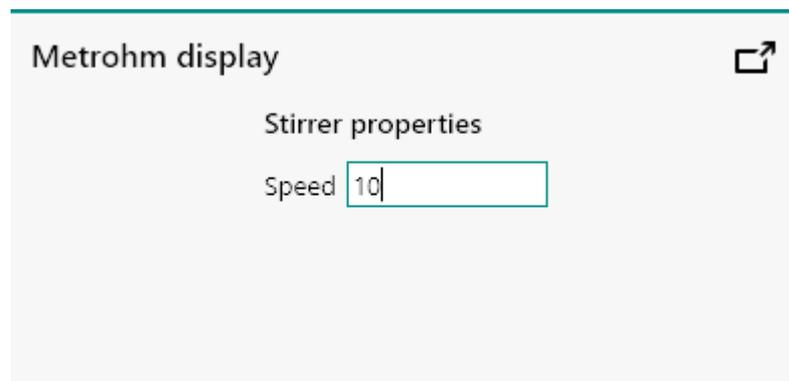

Figure 179 Adjusting the Speed numerically
- **Numerically:** by typing the value directly in the **Metrohm display** panel (see Figure 179, page 157).